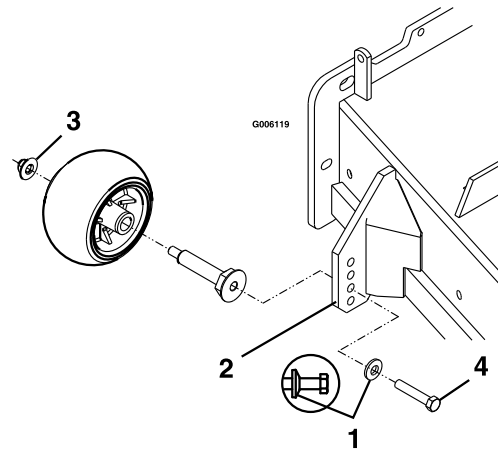

Figure 18
7. Be sure the roller bolts are installed with the spring disc washer between the head of the bolt and the mounting bracket (Figure 18).
8. Torque the 3/8–24 x 2 Gr 8 hex capscrew to 50–55 ft-lb (68–75 N-m) (Figure 18).